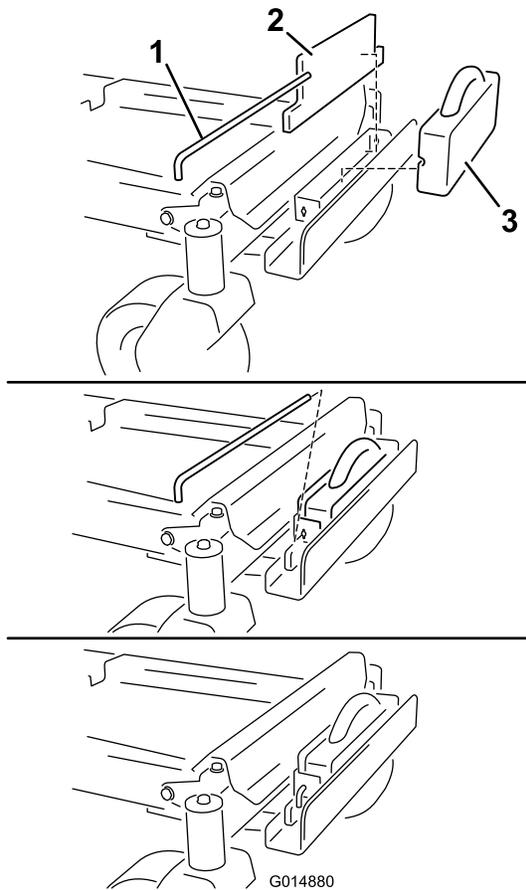

Figure 9
- Install a flat weight to the holding bracket and move it rearward, flush with the bracket (Figure 9).
- Install a suitcase weight in front of the flat weight (Figure 9).
- Secure the weights to the bracket with a keyed cross bar (Figure 9). Install the bar and rotate it 90 degrees downward to lock it in place.